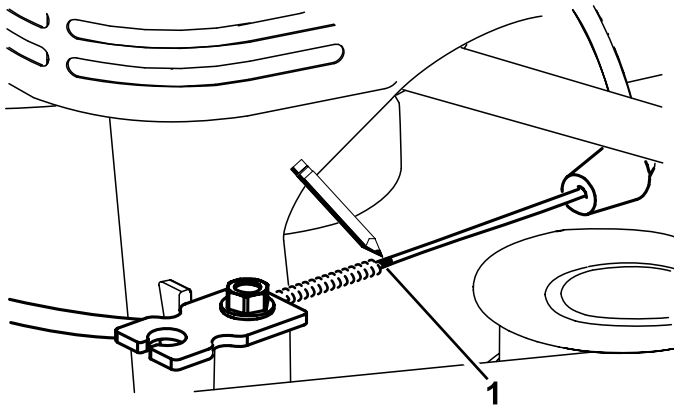
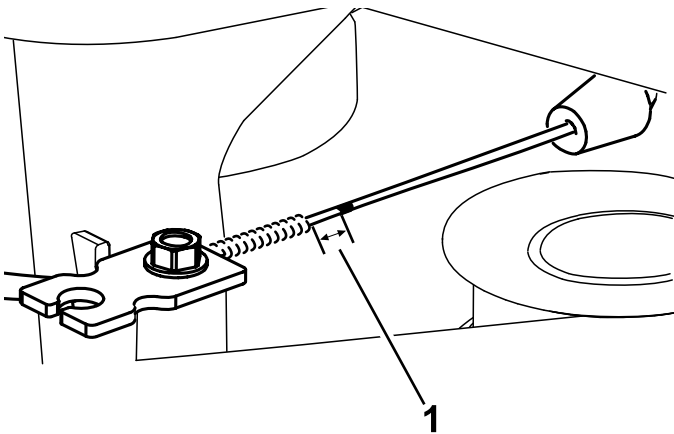

Figure 49
Figure 50
7. Mark the brake cable (Figure 49), then adjust the jacket until there is approximately 3 mm (1/8 inch) of slack (Figure 50).